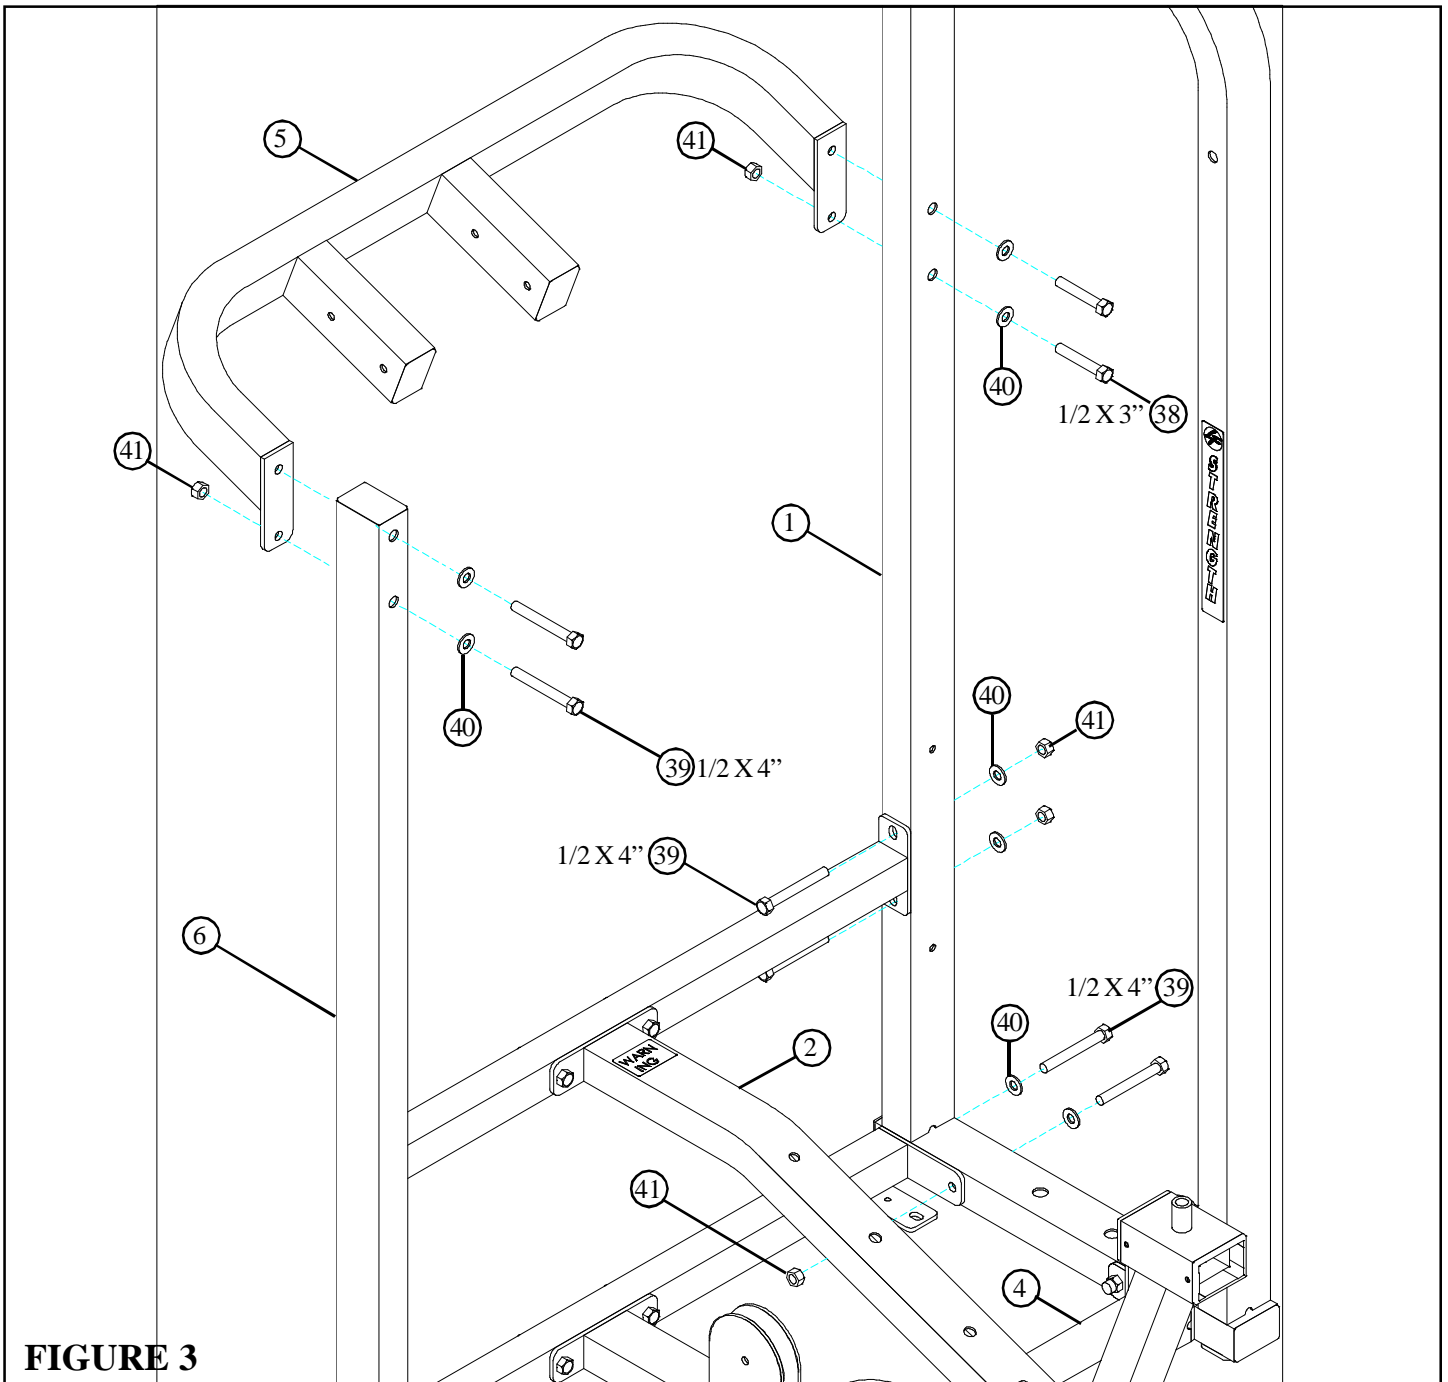

**FIGURE 2**
- **LOOSELY** assemble the FRAME (2) to the LOWER CROSS SUPPORT (4) using two 1/2 X 4" BOLTS (39), two 1/2" WASHERS (40) and two 1/2" LOCK NUTS (41). See FIGURE 2.
- **LOOSELY** assemble the PIVOT FRAME (6) to the FRAME (2) using four 1/2 X 3" BOLTS (38), four 1/2" WASHERS (40) and four 1/2" LOCK NUTS (41). See FIGURE 2.